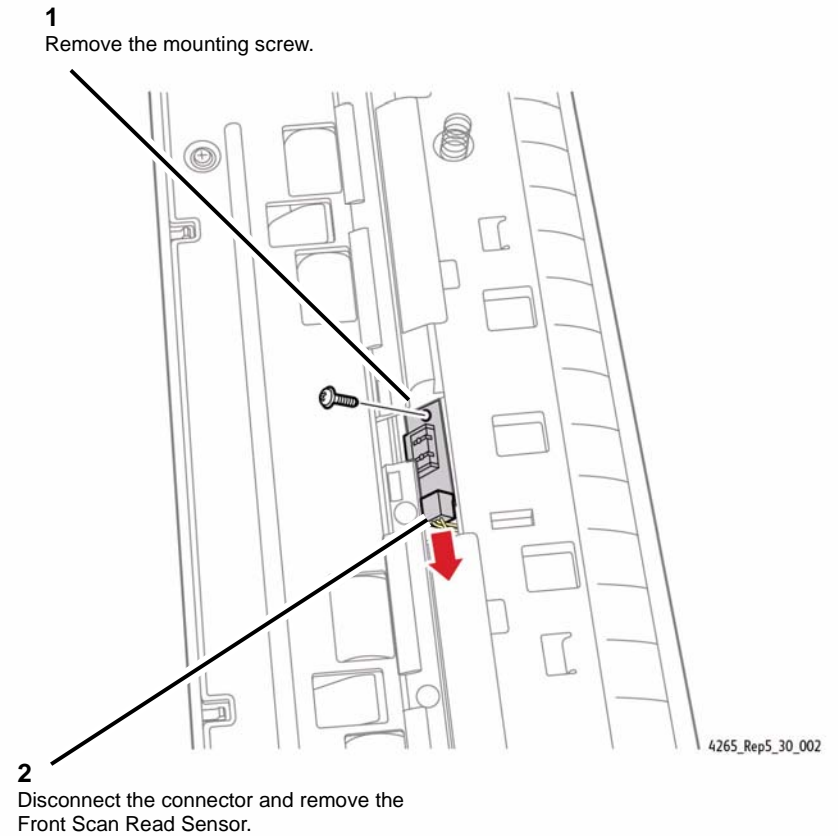

Figure 2 Removing the Scan Read Sensor
4. Remove the Front Scan Read Sensor (Figure 2).